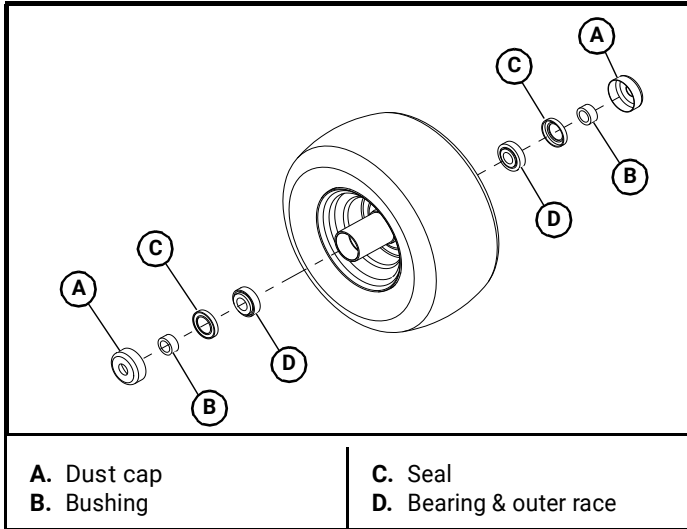

Figure 4-31
5. Insert the bushings through the seal openings and push them in until they contact the tapered roller bearings. Figure 4-31
6. Push the dust caps onto the wheel housing. Figure 4-31